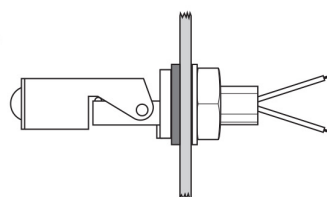

Fig. 2.1 Mini float switch on and off positions
- 4 Place the mini float switch into position ensuring that the activation arm is located in the upwards position **as shown in fig 2.1.**